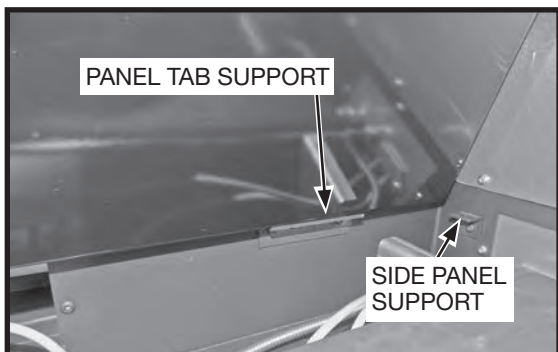
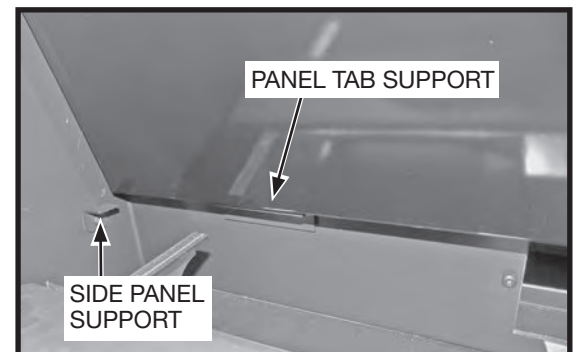

Figure 53: Rear panel - right side.
Figure 54: Rear panel - left side.
3. Insert the back panel with its' tabs pointing downward, into the firebox and position the panel tabs into the tab supports for both the right side and the left side (Figure 53 and Figure 54).